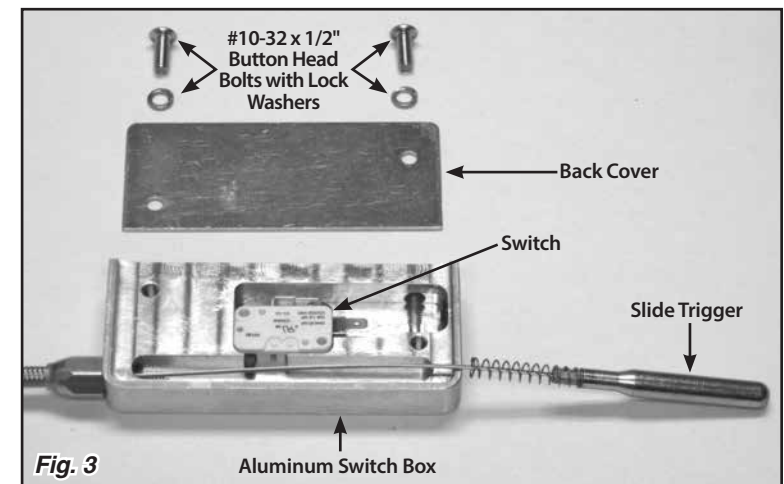

Fig. 3
**Step 2:** Remove the back cover from the aluminum switch box and remove the slide trigger and inner wire. **Fig. 3**